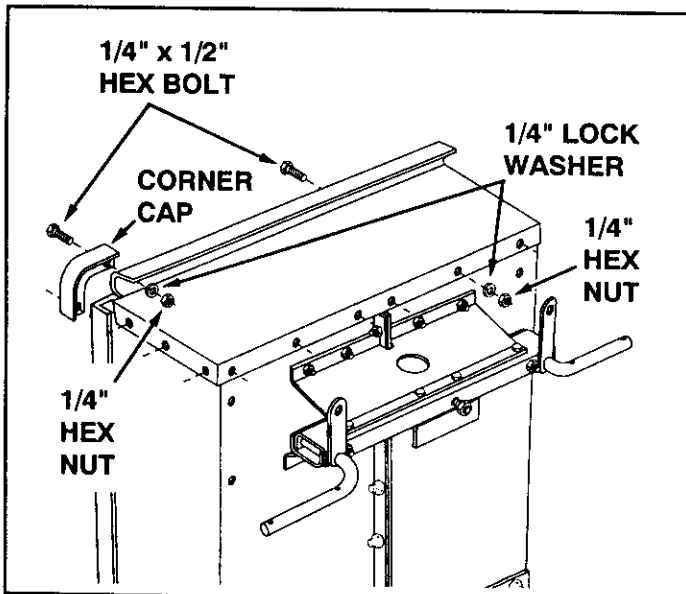

FIGURE 10
- Assemble the front panel over the end of the cart using twelve 1/4" x 1/2" hex bolts, 1/4" lock washers and 1/4" hex nuts. **Tighten** the bolts in the bottom of the panel and then **tighten** the bolts in the sides. See figure 10.
- Assemble two corner caps to the front of the cart using four 1/4" x 1/2" hex bolts, 1/4" lock washers and 1/4" hex nuts. **Tighten.** See figure 10.